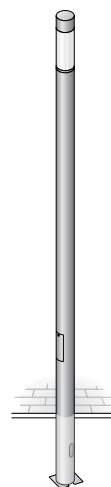
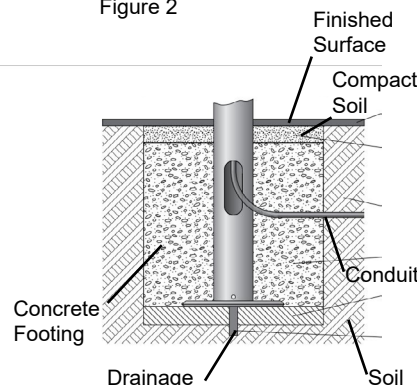

Figure 1
Figure 4
3. Route supply wiring through the mounting base and install pole (Figure 1, Figure 4).